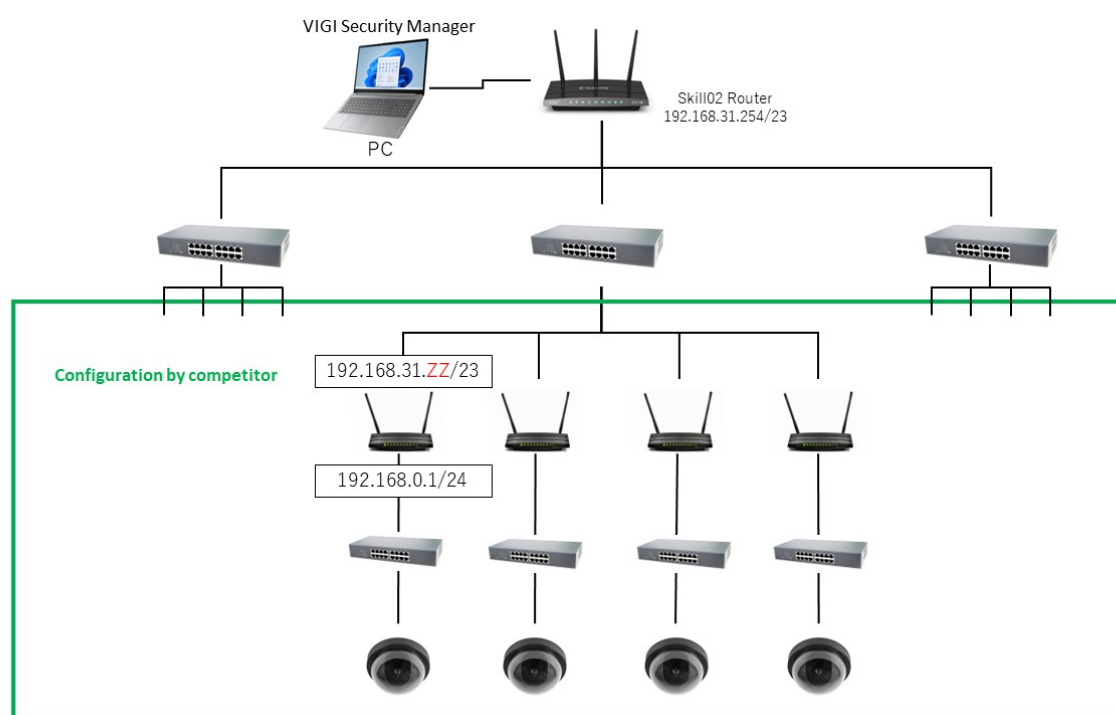

Fig.3 Network configuration.
- Images captured by your own cameras can be checked and confirmed by a camera image monitoring software (VIGI SECURITY MANAGER). Please refer to Fig.3.